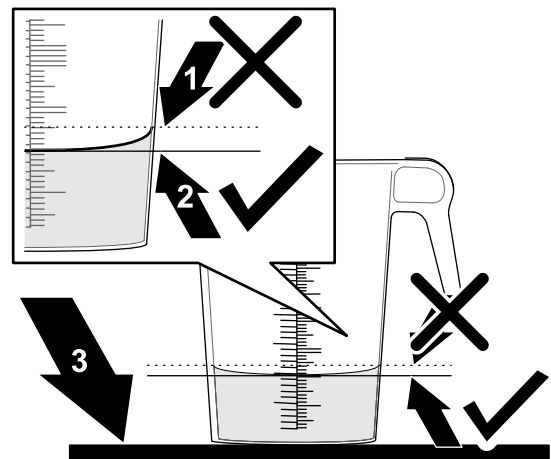

Figure 51
6. Set the graduated container on a level surface and note the fluid volume (Figure 51).